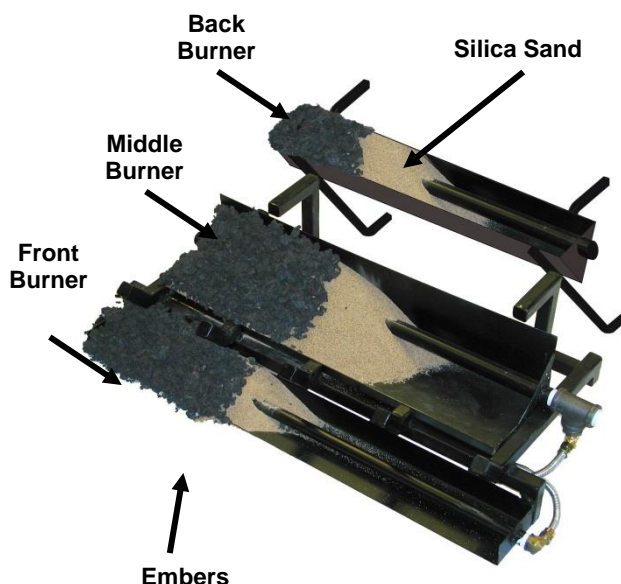

Figure 3
3. **Embers** (rockwool) are placed over the sand to simulate glowing embers. For best results pinch off pieces of the Part B material the size of a dime and feather it out. Place as much as desired over the area the gas comes through. Burner should be completely full and level. **(See Figure 3)**